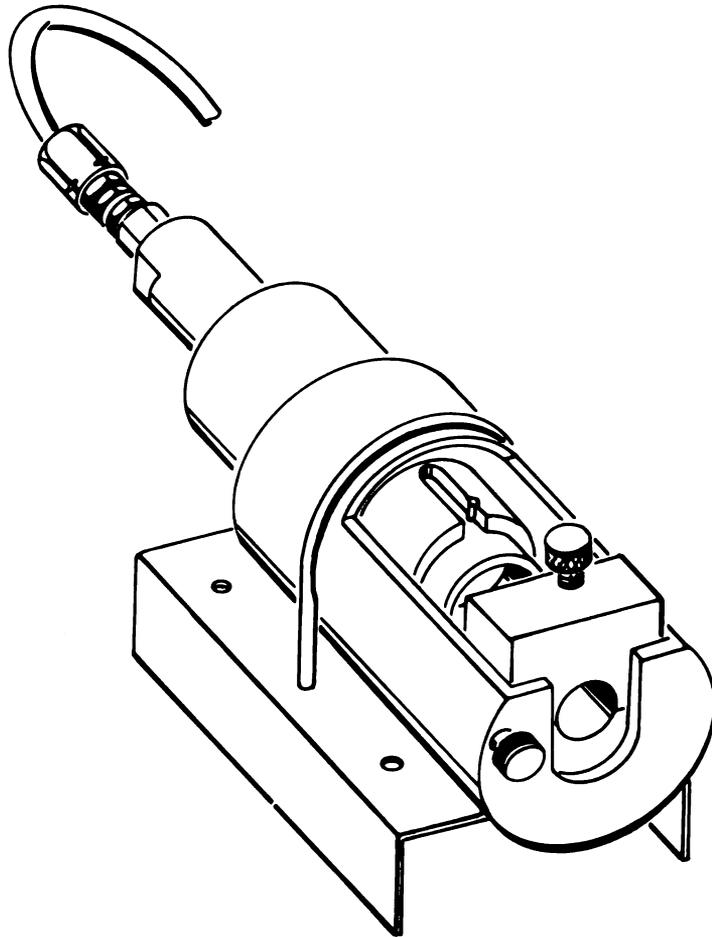

Figure 1-18. Tube Flaring Tool.
(5) *Tube flaring.* Tube flaring in the HSTRU is accomplished by a hydraulically operated tube flaring device. This tool is pictured in figure 1-18. This unit automatically grips the tube in tapered clamping blocks. At the same time, it also forces a tapered pin into the tube inside diameter. This produces the flare. The hydraulic pressure is provided by the use of the hand pump.